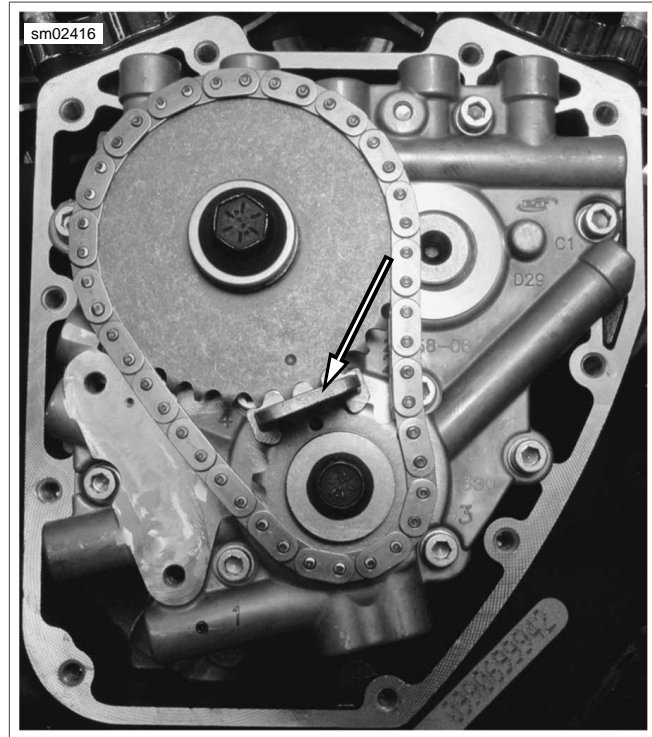

Figure 3-63. Camshaft Locking Tool
- c. See Figure 3-63. To prevent rotation, position the CRANKSHAFT/CAMSHAFT SPROCKET LOCKING TOOL (Part No. HD-47941) between the crank and primary cam sprockets. The handle of the tool is stamped "Crank" and "Cam" to verify proper orientation. Tighten the crank and primary cam sprocket flange bolts to 15 ft-lbs (20.3 Nm). Remove the sprocket locking tool.